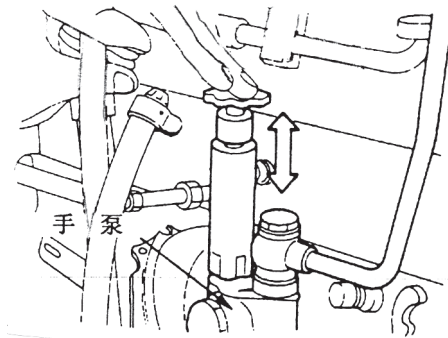

Fig. 1.19
1.5.10 Air exhaust of oil injection pump (See Fig.1.19)